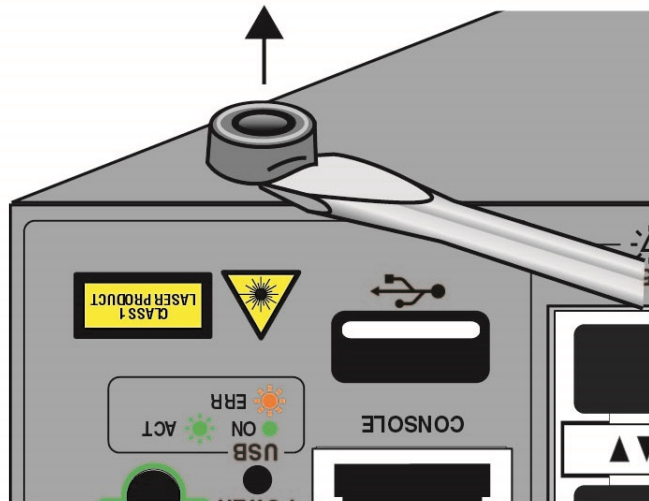

Figure 67. Removing the Bumper Feet
2. Use a small flat-head screwdriver to gently pry the feet from the bottom of the switch. Refer to Figure 67.